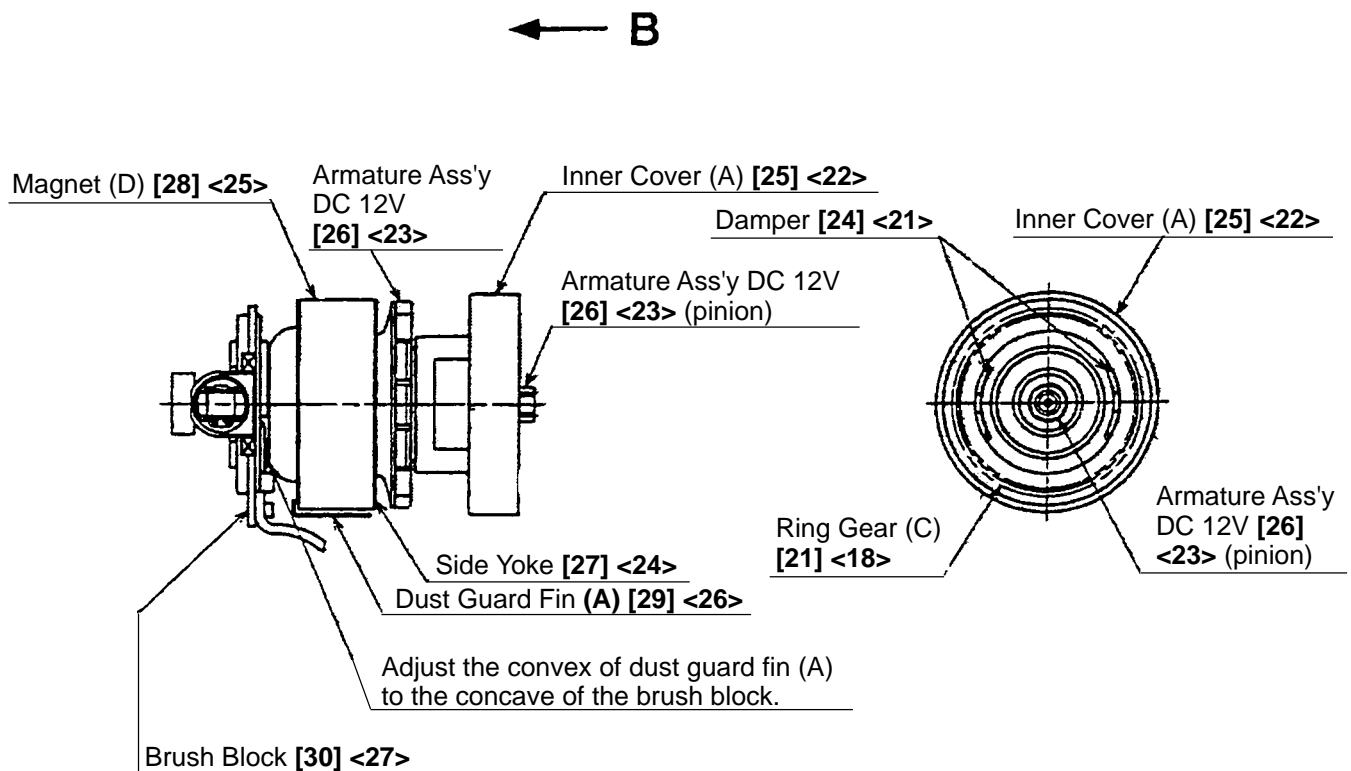

Fig. 4
(10) Removal of Magnet (D) [28] <25>, Dust Guard Fin (A) [29] <26> and Side Yoke [27] <24>
Remove Magnet (D) [28] <25> in the "B" direction (see Fig. 4) holding Inner Cover (A) [25] <22> securely because Magnet (D) [28] <25> has a strong magnetism. Dust Guard Fin (A) [29] <26> and Side Yoke [27] <24> can be easily removed from Magnet (D) [28] <25> by holding Magnet (D) [28] <25> securely and pulling them in the direction of diameter because they are mounted to Magnet (D) [28] <25> magnetically.